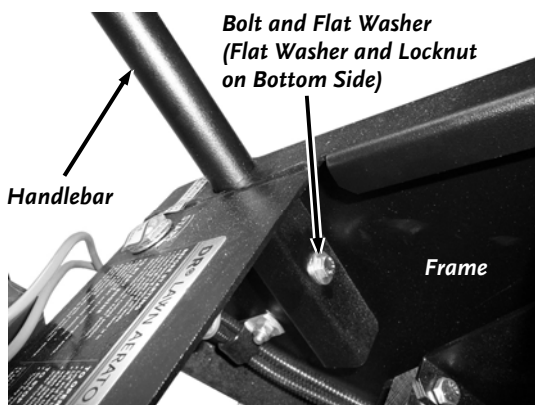

Figure 5
9. Align the holes in the Handlebar to the Frame holes and secure each side with a Bolt and Flat Washer (top side) and Locknut and Flat Washer (bottom side) using two 7/16" Wrenches (**Figure 5**). Make sure you tighten the hardware adequately.